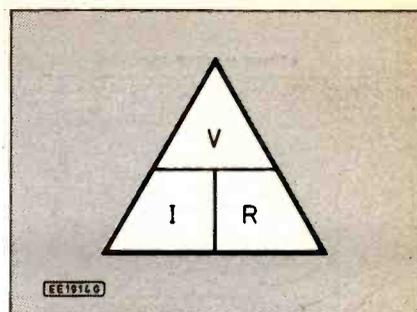

Fig. 7.8. Ohms law reminder triangle.
The triangle in Fig. 7.8 may be used to help you to remember the three forms of the formula for Ohm's law. If the resistance is unknown place your finger over the R; this leaves V over (divided by) I visible and therefore $R = V$ divided by I, (V/I) . To determine voltage cover the V; IR is visible and therefore $V = I$ multiplied by R, (IR) . Finally, to find current, covering the I leaves V over R visible, (V/R) .